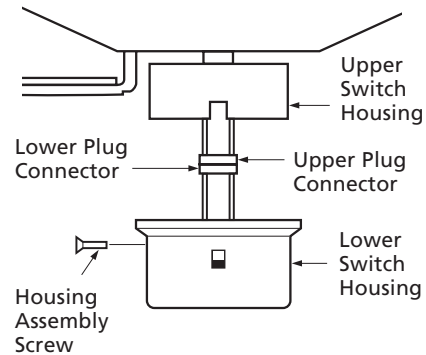

Figure 8f
1. Connect the upper plug connector from the motor to the lower plug connector in the lower switch housing assembly. See Figure 8f.
switch housings. Attach the lower switch housing to the upper switch housing with three #6-32 x 3/8" housing assembly screws. See Figure 8f.